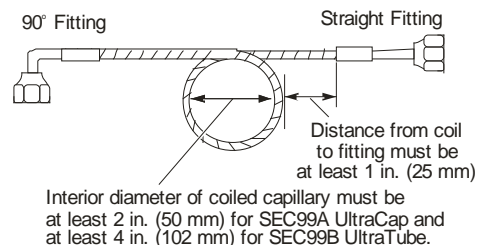

Figure 4: SEC99 Installation Requirements
1. Uncoil the capillary or tube as needed (Figure 4).
1. Desenrolle el tubo capilar hasta donde sea necesario (Figure 4).